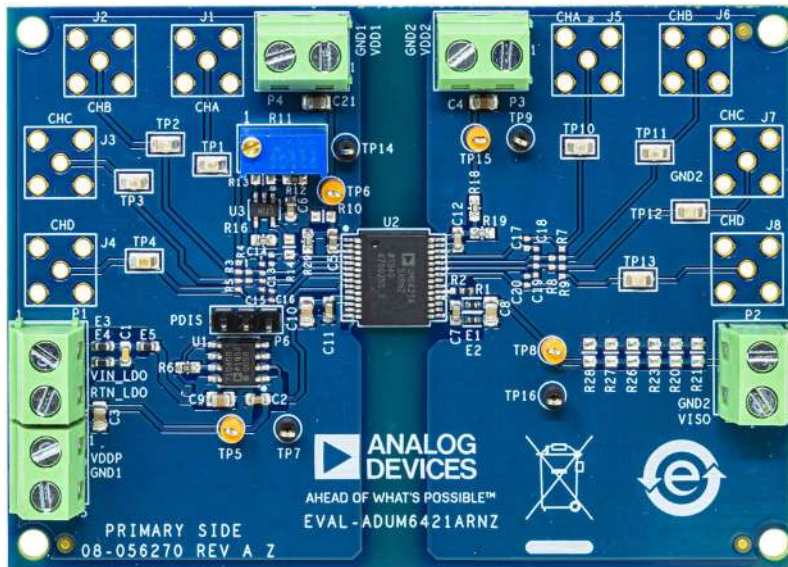
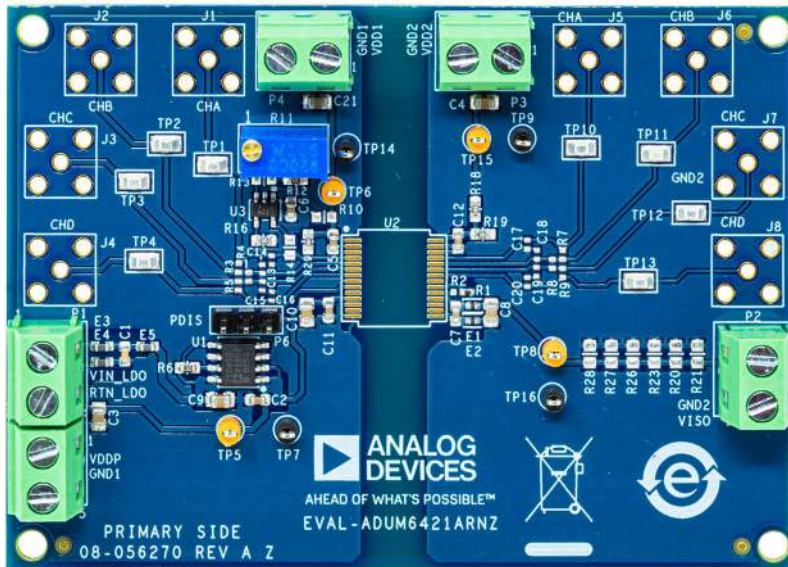
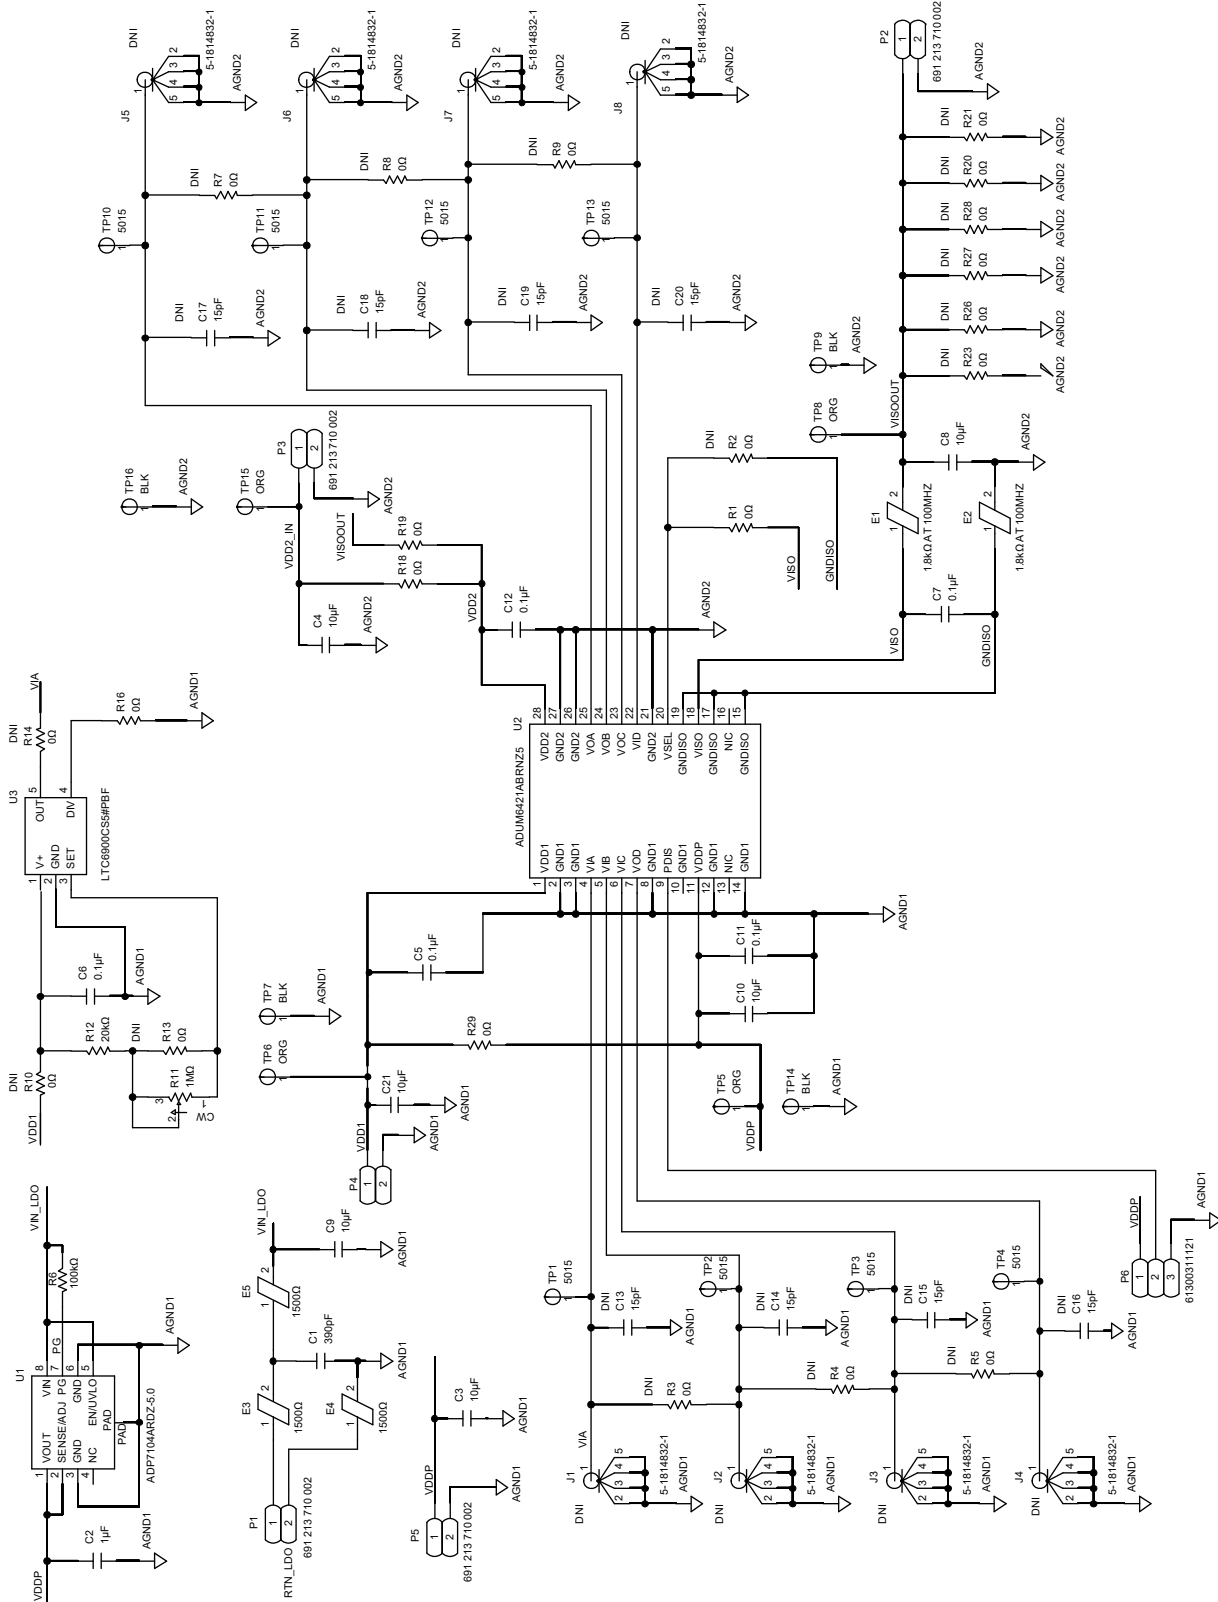

Figure 1. EVAL-ADUM6421ARNZ
Figure 2. EVAL-ADUM6421AURNZ
Figure 6. EVAL-ADUM6421ARNZ/EVAL-ADUM6421AURNZ Schematic
Figure 1 and Figure 2 show the EVAL-ADUM6421ARNZ and EVAL-ADUM6421AURNZ, respectively. The ADuM6420A/ADuM6421A/ADuM6422A/ADuM6423A/ADuM6424A can be powered directly or by the on-board low dropout (LDO) regulator. Either power scheme can be used without modification to the evaluation boards. The LDO input supply and return, Pin 1 and Pin 2, respectively, of Screw Terminal P1 (marked VIN_LDO and RTN_LDO in Figure 6), requires a power supply voltage of 6 V to 9 V. The LDO supply input is filtered by a ferrite bead network. The LDO generates the required 5 V to the ADuM6420A/ADuM6421A/ADuM6422A/ADuM6423A/ADuM6424A V_{DDP} pin. A 9 V battery can power the evaluation boards (when testing for electromagnetic compatibility (EMC), for example). Alternatively, the ADuM6420A/ADuM6421A/ADuM6422A/ADuM6423A/ADuM6424A can be powered directly with a 5 V supply through Pin 1 of Screw Terminal P5 (marked VDDP in Figure 6).
In both power schemes, the power supply return connects to Pin 2 of Screw Terminal P1 or P5 (marked AGND1 in Figure 6).
- Connect the V_{ISO} load (shown in Figure 6) using a PCB trace. Do not connect the V_{ISO} load to a power plane.